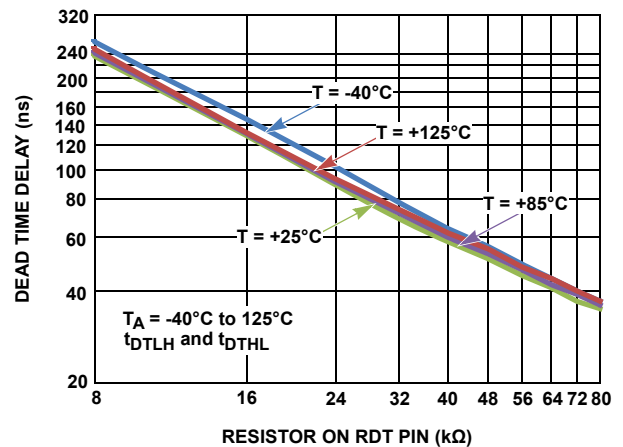

FIGURE 8. DEAD TIME DELAY VS RDT RESISTOR
When the PWM input transitions high or low, it is necessary to ensure that both bridge FETs are not on at the same time to prevent shoot-through currents. The ISL78420 programmable timers delay the rising edge of the high-side (HO) and low-side (LO) gate drives so that both FETs are off before one of them is turned on. The dead time delay on the rising edge of LO and HO is programmable with a single resistor from the RDT pin to VSS. The dead time is adjustable from 35ns ( $R_{RDT} = 80k\Omega$ ) to 220ns ( $R_{RDT} = 8k\Omega$ ). It is not recommended to use resistors beyond these values. The dead time is set equal on both falling edges of LO and HO. See "Timing Diagram" on page 6 for the definition of dead time delay. See Figure 8 on page 7 for the programmed dead time vs resistor value.